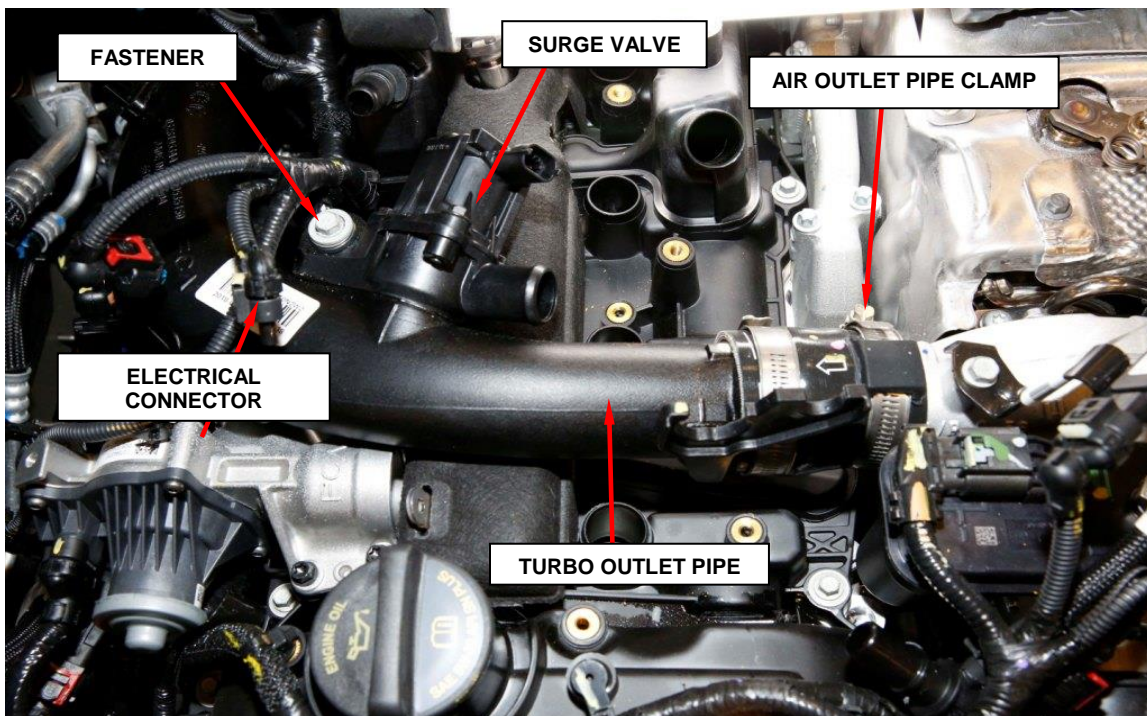

Figure 6 – Turbocharger Air Outlet Pipe
18. Remove the fastener retaining the turbocharger air outlet pipe to the cylinder head cover (Figure 6).
19. Loosen the clamp at the turbocharger outlet and pull the turbocharger pipe away from the turbocharger (Figure 6).
20. Loosen the clamp at the throttle body inlet and remove the turbocharger air outlet pipe from the throttle body (Figure 6).